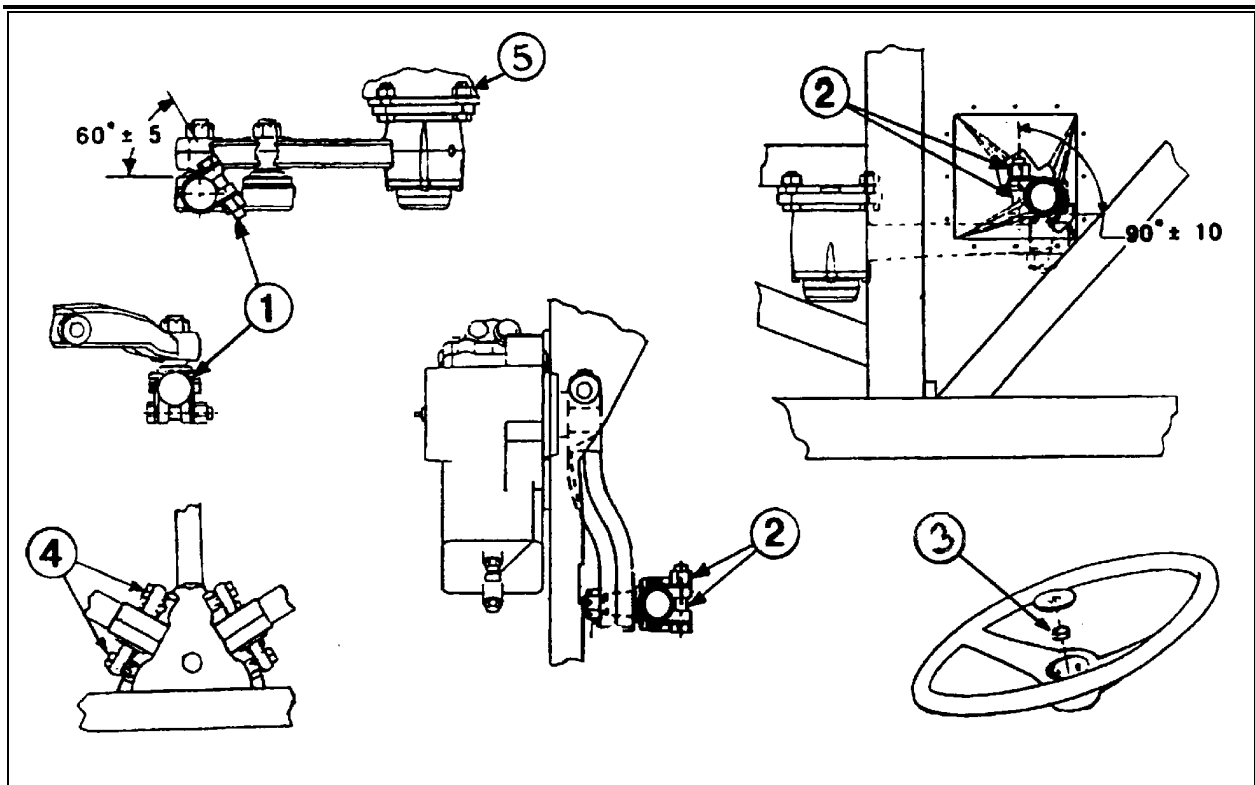

FIGURE 11: TORQUE REFERENCE (SEE TABLE BELOW)
7. Center the steering wheel (remove it and place it centered with the steering). Torque it properly (see figure 11).
15. Torque bolts as per figure 11.